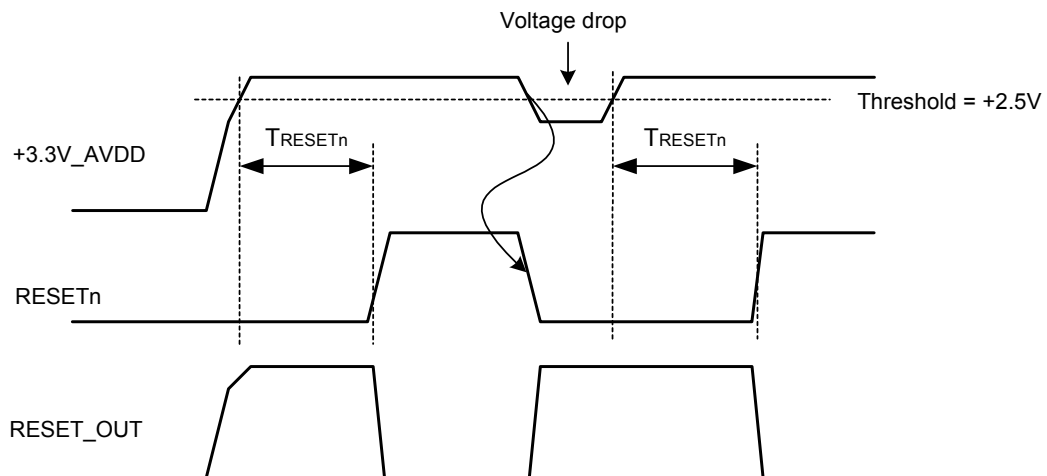

Figure 12. Reset Signal Timing (T_{RESETn})
- When +3.3V_AVDD drops below 2.5V a reset signal is generated. The reset signal gets de-asserted about 120ms after the input voltage rises above the 2.5V threshold (see figure 12).